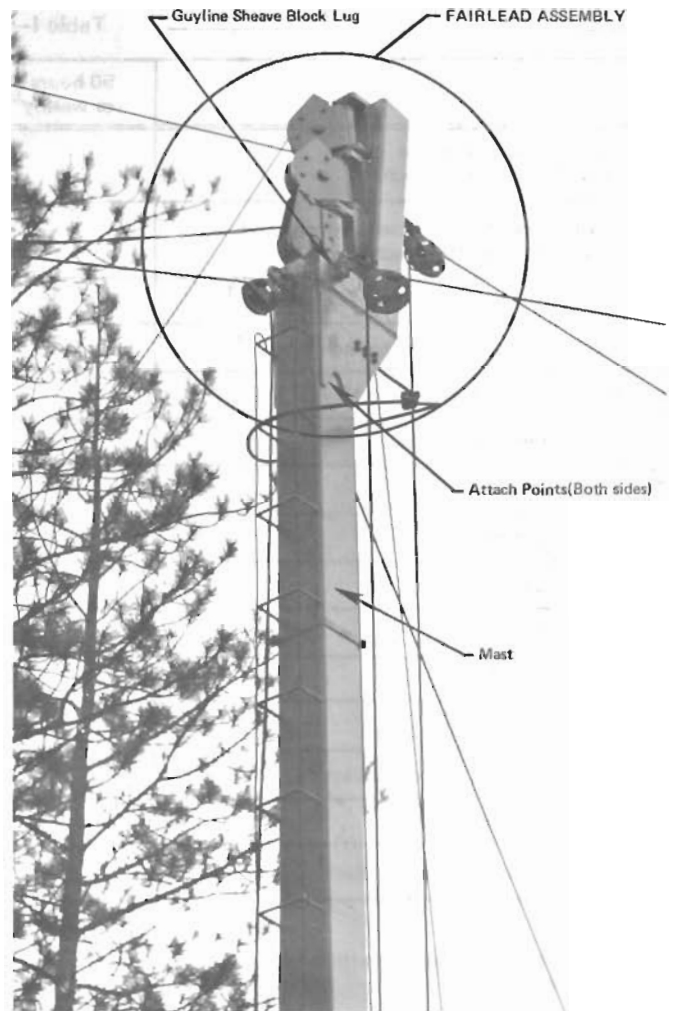

Figure 11.—Fairlead assembly.
- Fairlead assembly and attach points (fig. 11)
- Guyline sheave block attachment lugs (fig. 11)